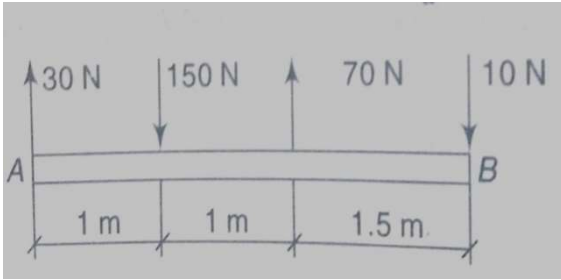

Figure 2.7
8. A system of coplanar parallel forces acting on a rigid bar as shown in Figure 2.7. Reduce this force system to (a) a single force, (b) a single force and a couple at A and (c) a single force and a couple at B.